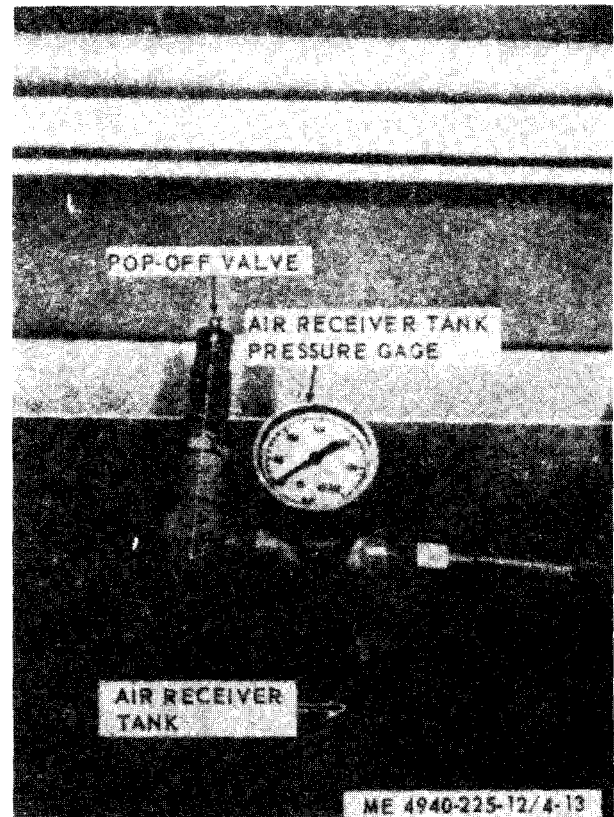

Figure 4-13. Air receiver tank pop-off valve removal and installation.
a. *Removal* Remove the air receiver tank pop-off valve as illustrated in figure 4-13.
(1) Clean all parts with cleaning solvent and dry thoroughly.
(2) Inspect for defects and replace a defective pop-off valve, as necessary.
c. *Installation.* Install the air receiver tank pop-off valve as illustrated in figure 4-13.